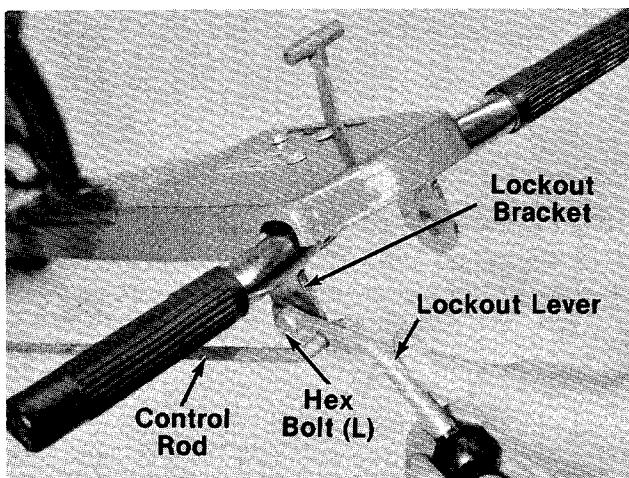

FIGURE 9.
2. Hook control rod into hole provided in lockout lever assembly (O). Hold lockout lever in a raised position as shown in figure 9. Thread control rod in or out of ferrule as necessary until hole in lockout lever lines up with hole in lockout bracket. See figure 9.
3. When correct adjustment is reached, secure lever to bracket using hex bolt (L), flat washer (M) and hex lock nut (N).